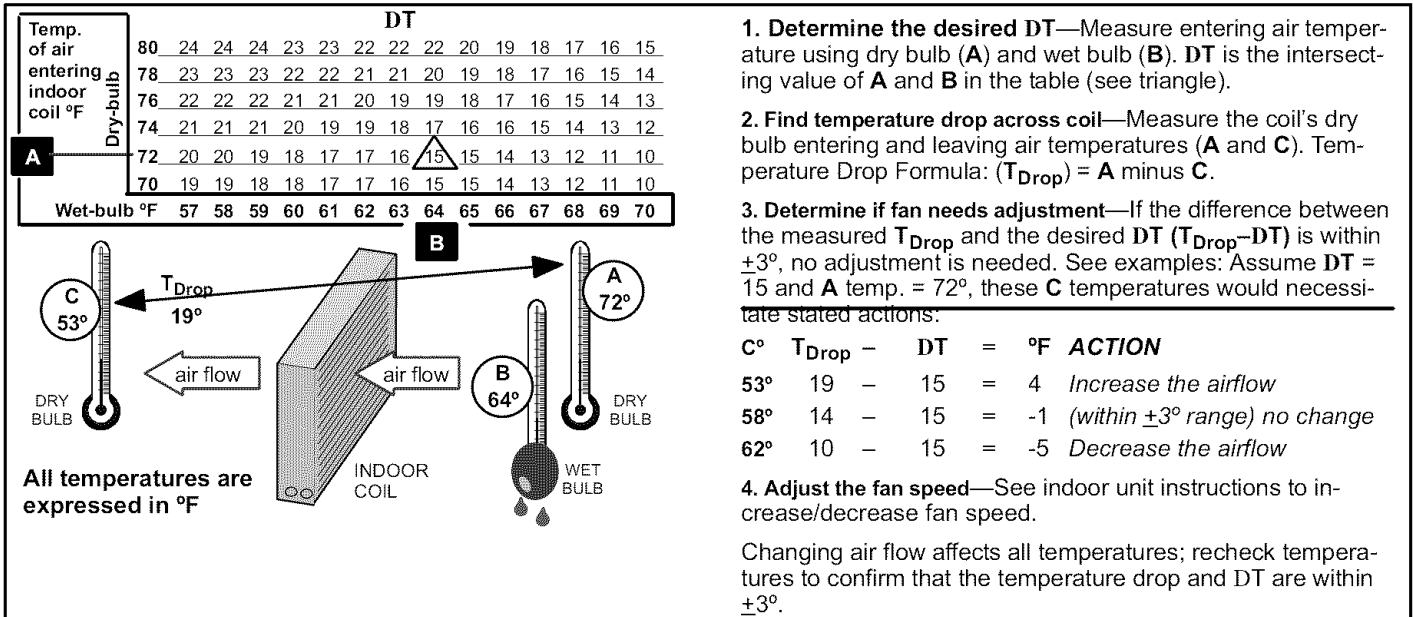

Figure 26. Checking Indoor Airflow over Evaporator Coil using Delta-T Chart
Check airflow using the Delta-T (DT) process as illustrated in figure 26 on page 16.
- 1 Check the airflow as illustrated in figure 26 to be sure the indoor airflow is as required. (Make any air flow adjustments before continuing with the following procedure.)